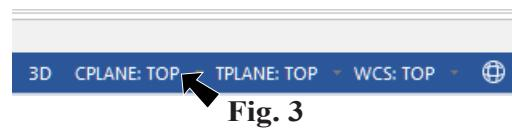

Fig. 3
Step 1. Confirm CPLANE in Status bar at bottom of the graphics window is set to Top, Fig 3.